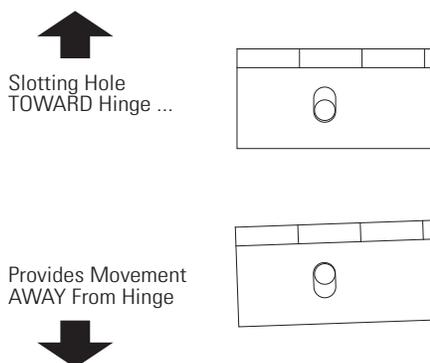

Fig. 4
Step 19 - Remove #4-40 screws and dislocate door. Use a 1/8" diameter metal file (not included) and slot the screw holes in the hinge. **Important:** Holes will be slotted in the opposite direction that the door is to move. (See Fig. 4)